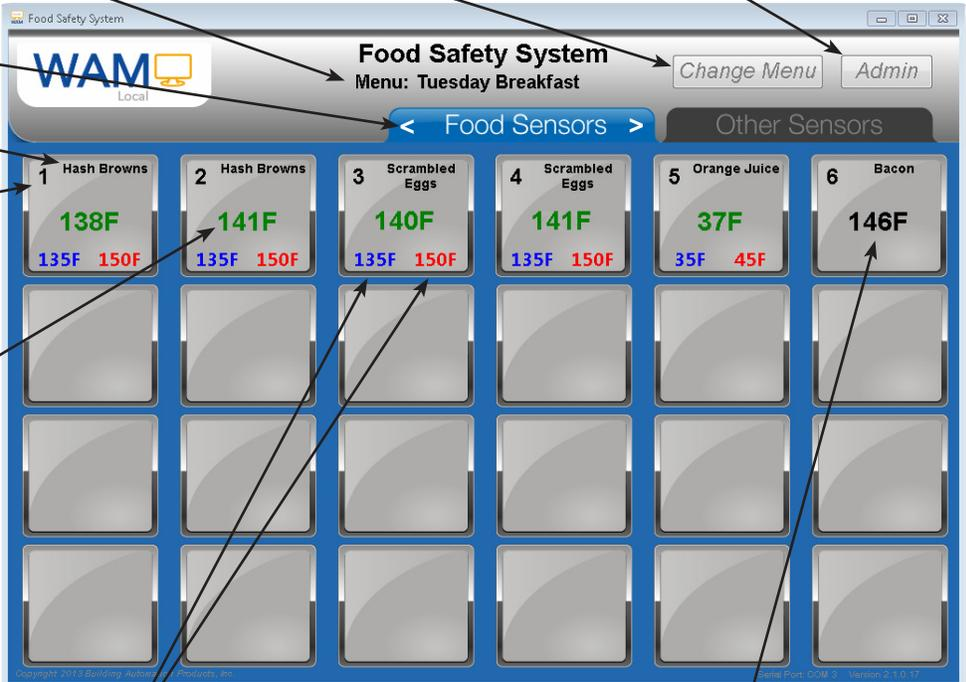

Fig 6: Food Sensors Monitoring Screen
8. Close the Administration Screen to view the "Food Sensors" Monitoring Screen (Fig 6).
After the First-time Startup, the system will automatically go to the "Food Sensors" Monitoring Screen (Fig 6) when launched. This screen can also be accessed by clicking on the "Food Sensors" tab.
This is the main user screen and it displays only Wireless Food Sensors. The screen consists of 24 buttons with room for information about the foods being monitored. The temperature reading from the sensors is refreshed every 15 seconds. The individual button and screen elements are described in detail below in Fig 6.